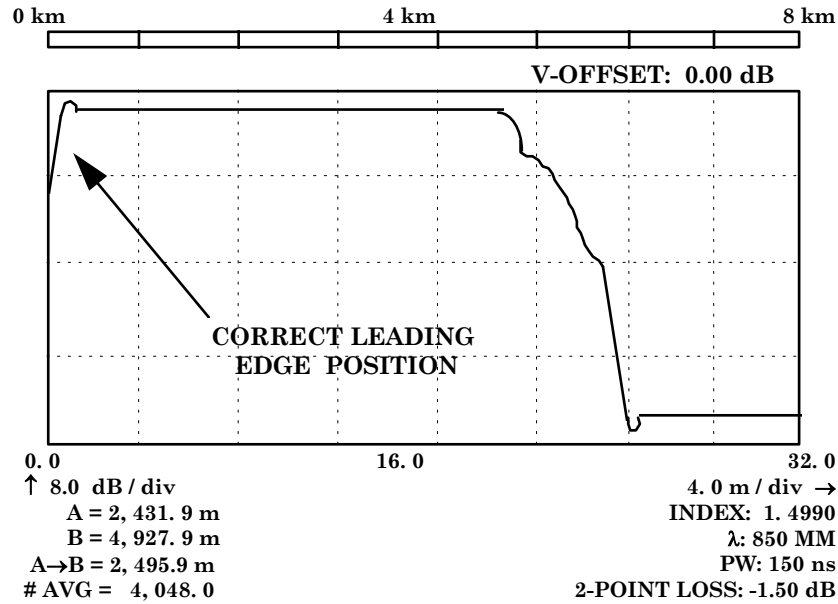

Figure 1. Example of correct leading edge position of *dead zone pulse* (TD-260C).
(2) After TI does self-test and displays **Press Any Main Panel Key to Begin**, press any front panel pushbutton.
(3) Press **FAST SCAN** pushbutton. Wait for **LASER ON/AVG** on display indication to go off.
(4) Press **HOR EXP** pushbutton as necessary to view slope on leading edge of *dead zone pulse*. Slope must be present and in approximate position shown in figure 1.